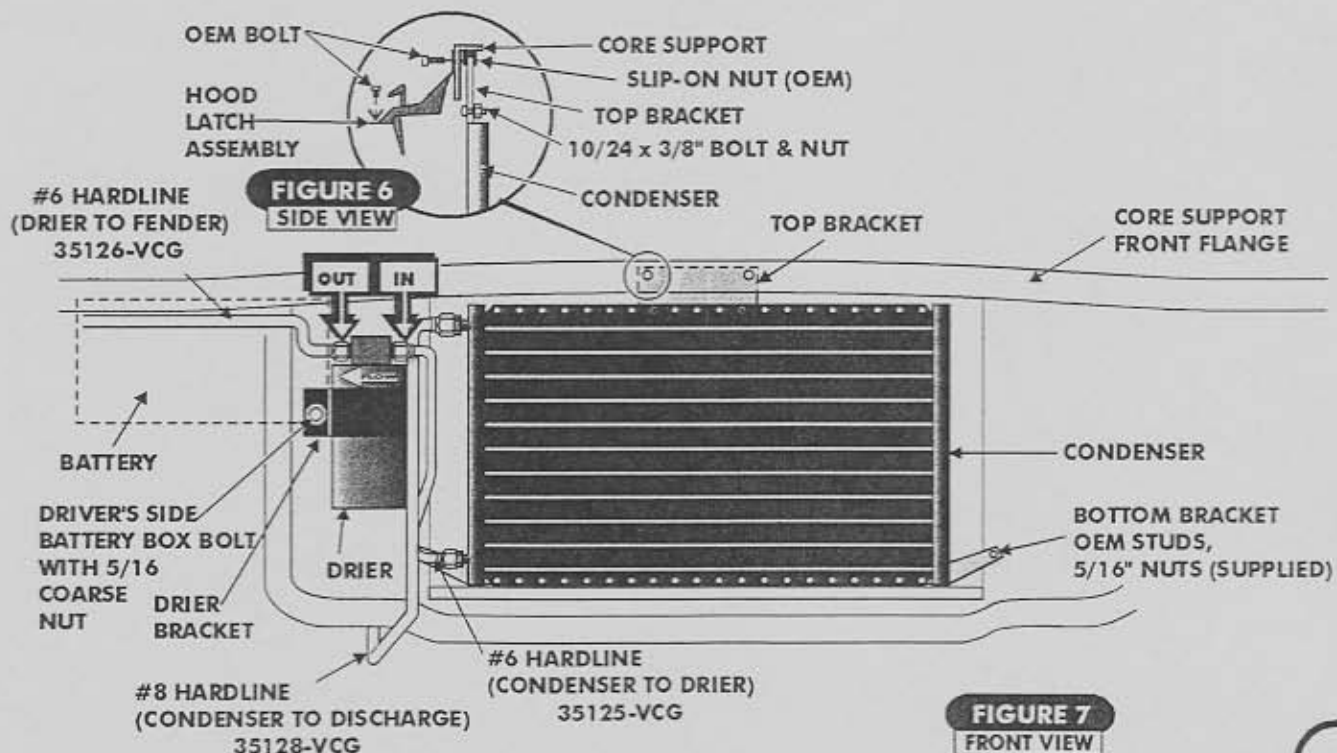

FIGURE 7
- ATTACH CONDENSER TO THE FRONT SIDE OF RADIATOR SUPPORT BY USING THE PROTRUDING RADIATOR ATTACHING BOLTS AS STUDS AND FASTEN WITH THE TWO (2) 5/16" NUTS (SUPPLIED). (SEE FIGURE 7, PAGE 5). IF BOLTS ARE NOT LONG ENOUGH, REPLACE WITH BOLTS AT LEAST 1" LONG.
- LOCATE THE #8 (CONDENSER TO DISCHARGE SIDE OF COMPRESSOR) HARDLINE. (SEE FIGURE 20, PAGE 12) LUBRICATE THE O-RING (SEE FIGURE 4, PG. 5) AND ATTACH TO THE TOP CONDENSER FITTING. (SEE FIGURE 7.) ATTACH HARDLINE TO THE FRAME USING AN ADEL CLAMP AND SHEET METAL SCREW IN THE POSITION SHOWN IN FIGURE 20, PAGE 12.
- LOCATE #6 (CONDENSER TO DRIER) HARDLINE AND TWO (2) #6 O-RINGS. LUBRICATE AND INSTALL O-RINGS (SEE FIGURE 4, PAGE 5) ON THE LINE AND ATTACH TO THE LOWER CONDENSER FITTING AND INLET FITTING ON THE DRIER. SEE FIGURE 7, THIS PAGE, AND FIGURE 20, PAGE 12. TIGHTEN USING TWO WRENCHES. (SEE FIGURE 5, ABOVE.)
- MOUNT DRIER ON PASSENGER SIDE OF CORE SUPPORT USING THE BATTERY BOX BOLT (SEE FIGURE 7, PAGE 5 AND FIGURE 20, PAGE 12).